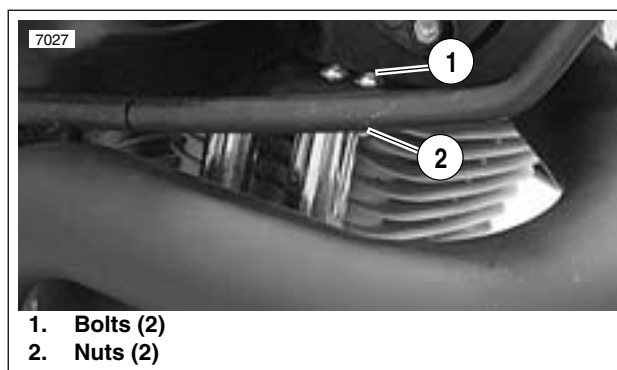
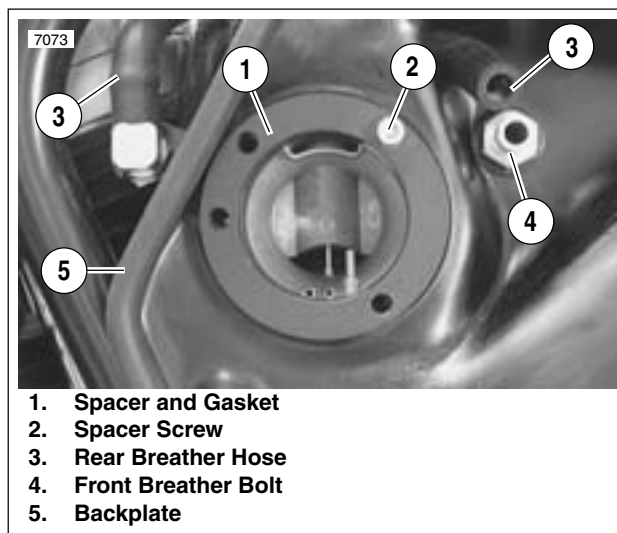

Figure 4-25. Air Cleaner Front Mount
Figure 4-26. Air Cleaner Spacer
- See Figure 4-25. Remove nuts (2) and bolts (1) from front mount.
- See Figure 4-26. Remove spacer screw (2) and spacer and gasket (1).
- Remove front breather bolt (4).
- Pull backplate (5) away from motorcycle and rear breather hose (3). On California models, slide fresh air inlet hose from carbon canister through backplate.
- b. See Figure 4-26. Slide rear breather hose (3) through backplate (5). On California models, slide canister fresh air inlet hose from carbon canister through backplate.
- d. Install front breather bolt (4). Tighten to 10-15 ft-lbs (14-20 Nm).
2. Apply LOCTITE THREADLOCKER 243 (blue) to spacer screw (2). Install spacer and gasket (1) using spacer screw (2). Tighten to 7-9 ft-lbs (10-12 Nm).
3. See Figure 4-25. Apply LOCTITE THREADLOCKER 243 (blue) to bolts (1). Insert bolts (1) through backplate and mount. Install nuts (2). Tighten to 3-5 ft-lbs (4-7 Nm).